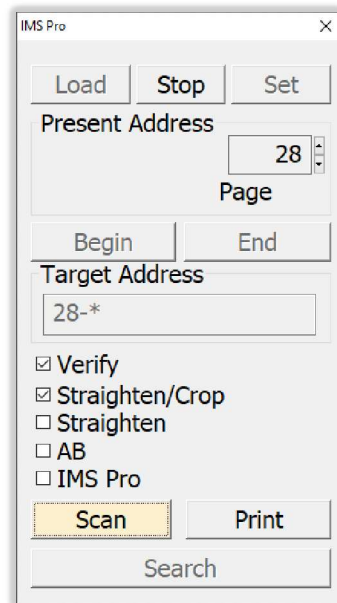

Figure 89
2. Press and hold the *CTRL* button on the keyboard and left click on the leading edge of the blip, approximately in the vertical center. The red track and the tick mark will move to this position. *Figure 89*